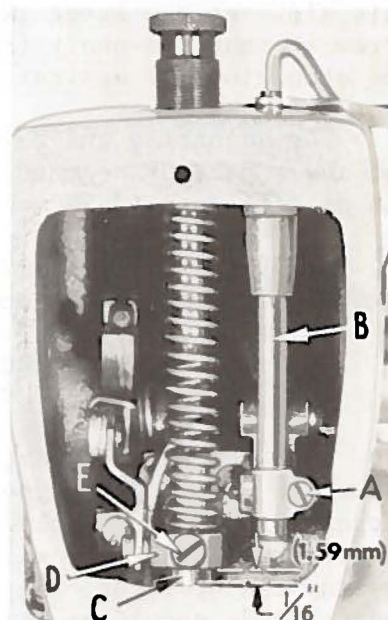
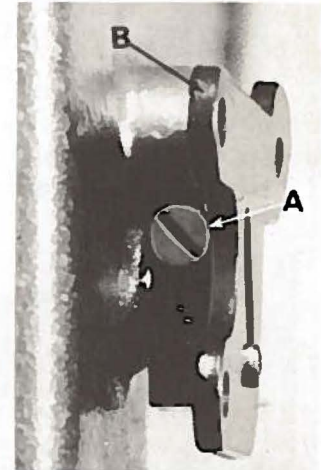

Fig. 7
Fig. 14
Insert a new needle, type and size as specified, with the spot or scarf to the left. A preliminary setting of 1/4 inch (6.35 mm) from the point of the needle to the top surface of the throat plate, when the needle bar is at its highest position is sufficient. This can be accomplished by removing the head cover from the left end of the machine, loosen screw (A, Fig. 7), move needle bar (B) up or down as required and retighten screw.
The thread tension release is set correctly when it begins to function as the presser foot is raised to within 1/8 inch (3.17 mm) of the end of its travel and is entirely released when the presser foot has reached its highest position. If adjustment is required, loosen the tension release lever screw (A, Fig. 14) located at the rear of the machine next to the presser foot lifter lever (B) and reposition the tension disc separator as required. Retighten screw (A) assuring that there is no bind at any point.
The height of the presser bar (C, Fig. 7) is set correctly if it is possible to remove the presser foot when the foot lifter lever (B, Fig. 14) is fully depressed. Also there should be approximately 1/16 inch (1.59 mm) clearance between lower surface of the presser bar connection and guide (D, Fig. 7) and the bottom surface of head opening in the bed, when the foot lifter lever is released and the presser foot resting on the throat plate, with the feed dog down below the throat plate.